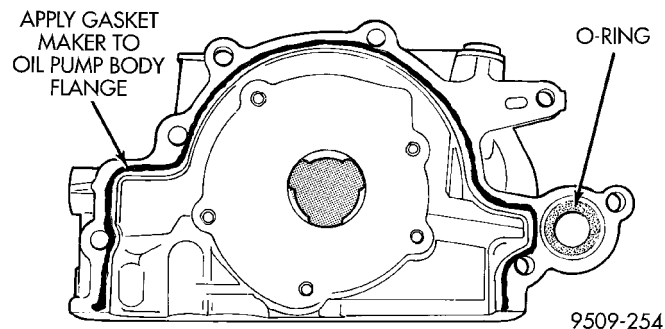

Fig. 75 Oil Pump Sealing
(1) Make sure all surfaces are clean and free of oil and dirt.
(2) Apply Mopar Gasket Maker to oil pump as shown in (Fig. 75). Install oil ring into oil pump body discharge passage.